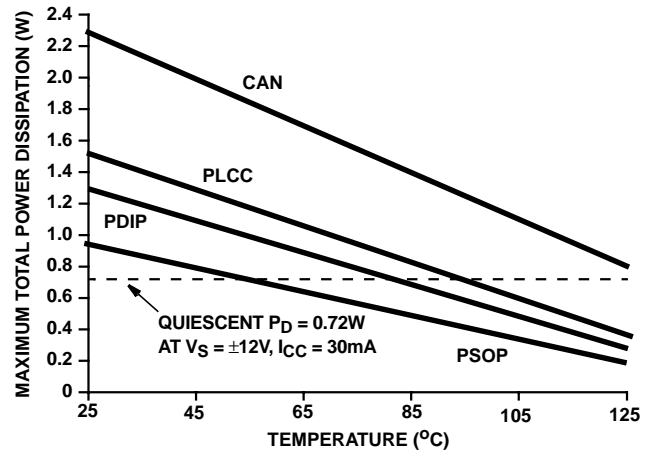

FIGURE 5. MAXIMUM POWER DISSIPATION vs TEMPERATURE
- Maximum power dissipation, including load conditions, must be designed to maintain the maximum junction temperature below 175°C for the metal can package, and below 150°C for the plastic packages (See Figure 5.).
- Maximum operating temperature in the PSOP package is limited to 60°C, for $V_{SUPPLY} = \pm 12V$ to prevent the junction temperature from exceeding 150°C. The maximum operating temperature may have to be derated further, depending on the output load condition. The operating temperature may be increased if the HA9P5033 is operated at lower V_{SUPPLY} . For example, the quiescent operating temperature may be increased to 75°C by operating at $V_{SUPPLY} \leq \pm 9.7V$. See Figure 5 for more information.
Figure 5 is based on: